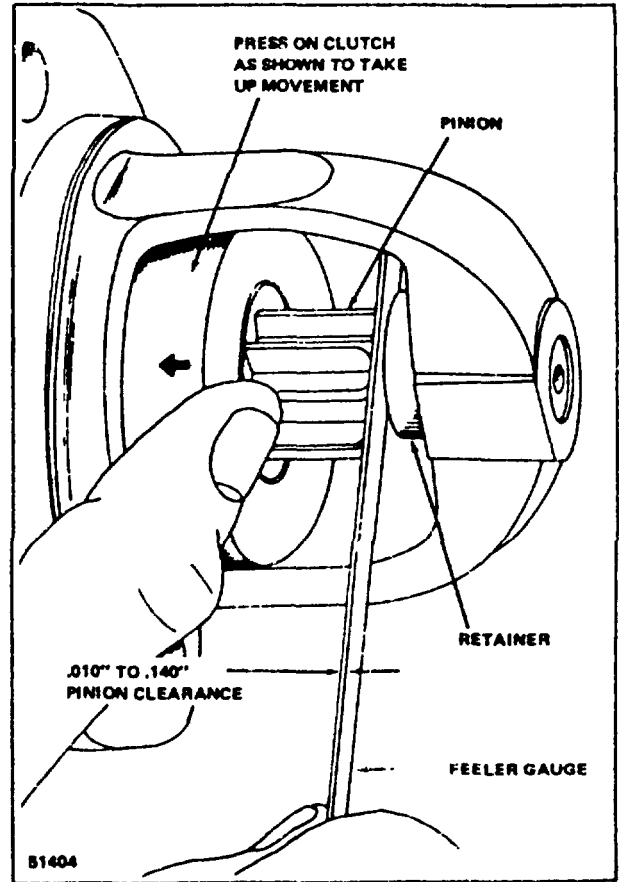

Figure 62. Checking Pinion Clearance
5. Measure the distance between pinion and pinion stop (See Figure 62). Pinion clearance should be .010" to .140".